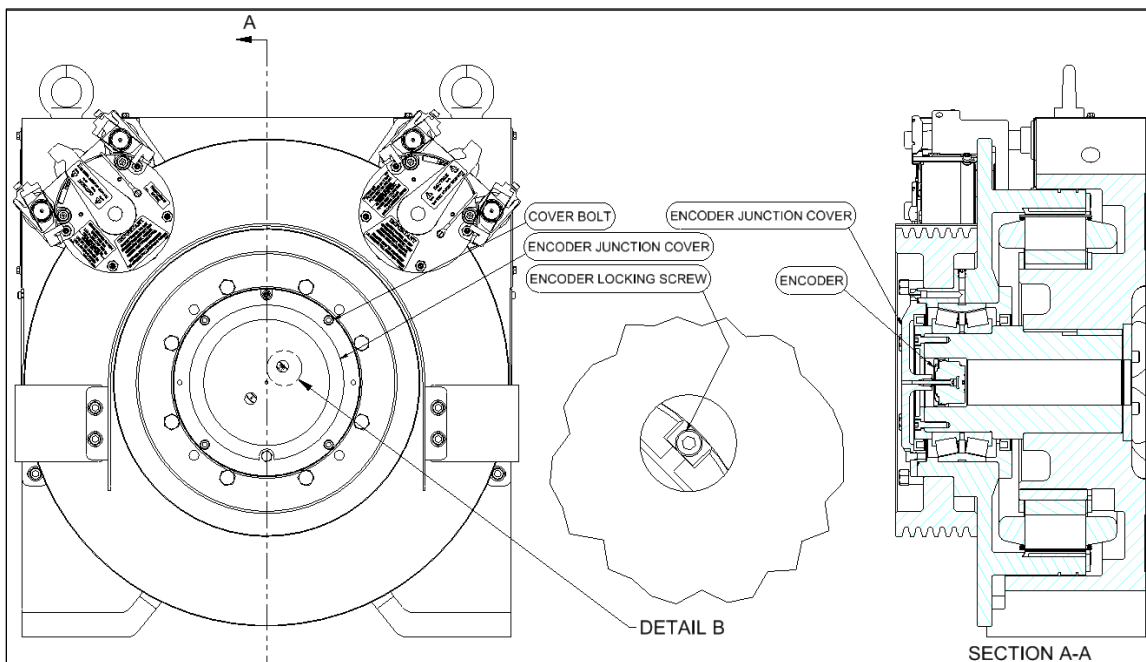

Figure 15 Machine/Encoder Detail
1. Rotate the machine so that the encoder locking screw is visible from the access hole on the encoder cover, as shown in Figure 15, Detail B.